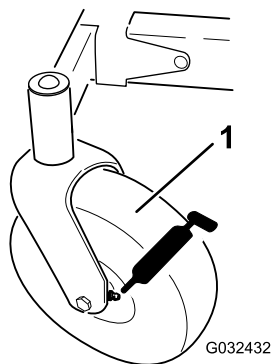

Figure 37
3. Clean the grease fittings (Figure 37) with a rag.
4. Connect a grease gun to each fitting (Figure 37).